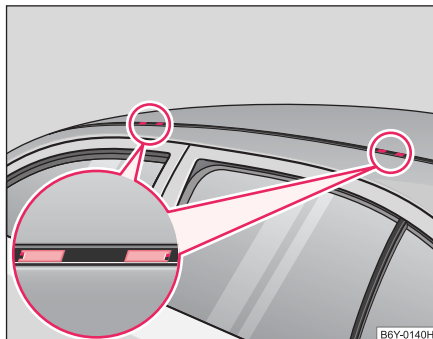

Fig. 62 Attachment points for roof bars
- Remove the plastic caps ⇒ **fig. 62** carefully using a plastic auxiliary tool to avoid paint damage.